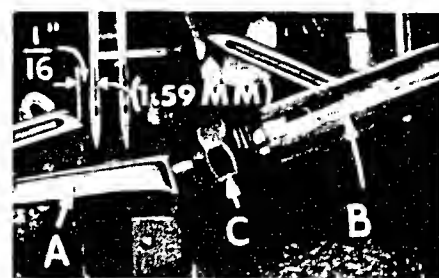

Fig. 5
At this point, insert lower looper (A, Fig. 5) into bar (B). With the lower looper at the left end of its stroke, set looper point  $1/16$  inch (1.59 mm) from center of left needle (Fig. 5), using looper gauge No. 21225-1/16. Do not have lower looper deflecting needle. Tighten nut (C).